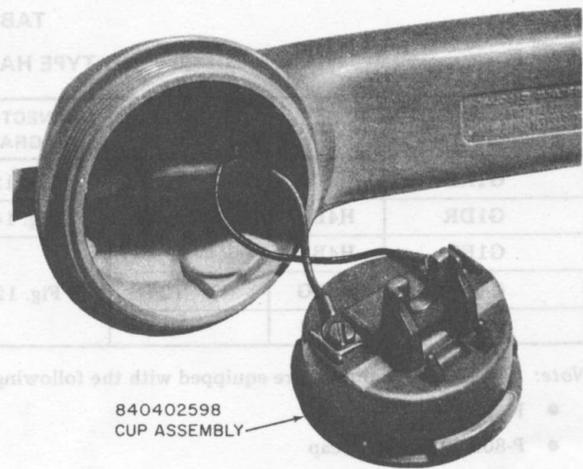

Fig. 6—Current G Series Handset
2.03 Early G-series handsets were equipped with cord retainer parts in the transmitter cavity (Fig. 5). Current G-series handsets are equipped with transmitter cups having the cord retainer molded on the cup (Fig. 6). The two types of cord retainer arrangements are not interchangeable.